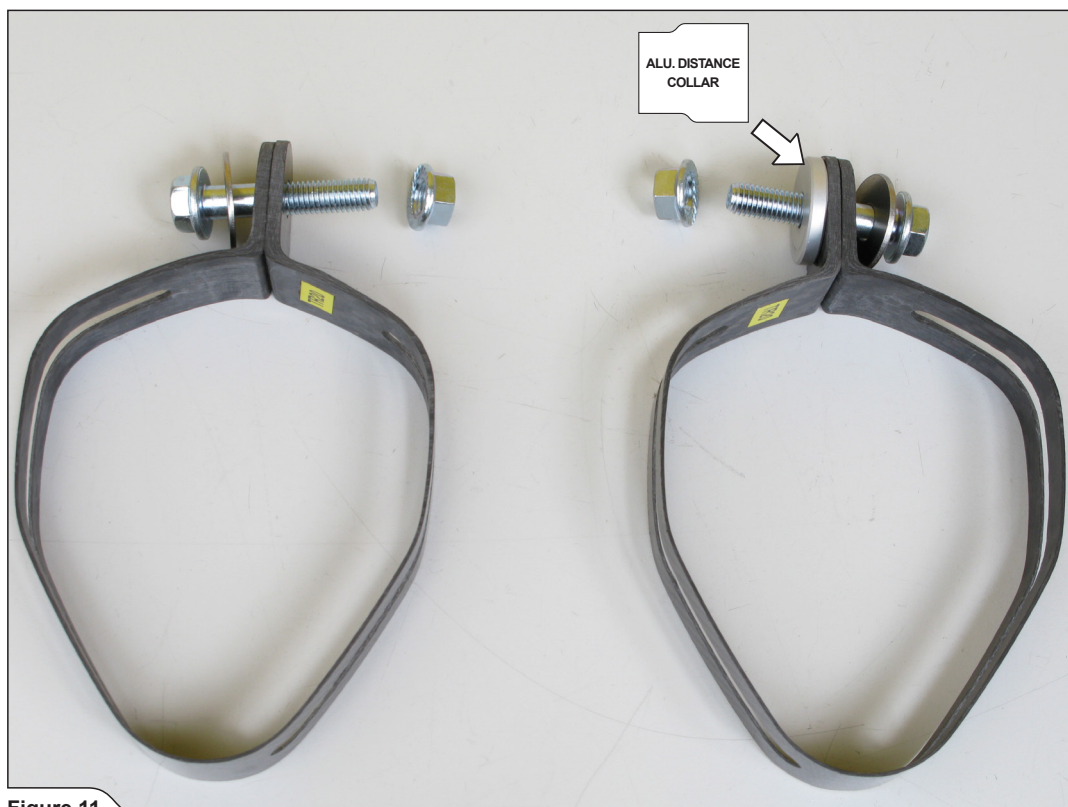

Figure 11
- Slide both assembled mufflers onto the stock collector. Align the mufflers and link pipes in respect to the motorcycle, tighten the mufflers' clamps onto the stock muffler brackets, using bolts, washers, aluminium distance collar and nuts from Akrapovič installation kit (Figure 11, 12, 13, 14).
**!** IMPORTANT: make sure that you lay the aluminium distance collar under the right muffler clamp (Figure 11, 13)!